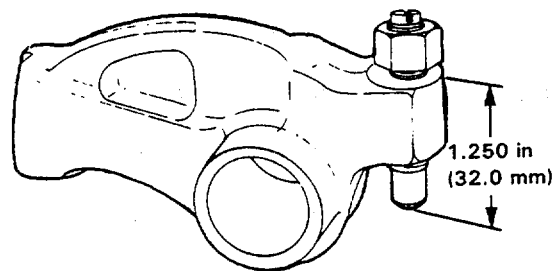

FIGURE 2-27. Rocker Lever Adjusting Screw.
- d. Loosen the rocker lever setscrews so there is a maximum of 1.259 inches (32 mm) from the top surface of the lever and the ball end of the adjusting screw (Figure 2-27).